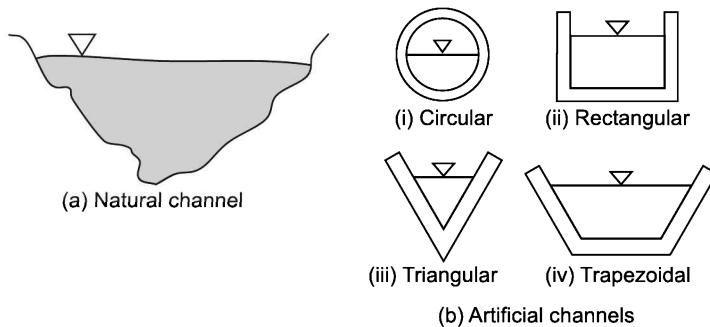

FIGURE 18.47 Natural and artificial open channels.
- (a) **Natural and artificial:** Natural channels have irregular sections of varying shapes, alignment and surface roughness. Examples are (i) rivers (ii) small rivulets and (iii) sheets of water across fields. Artificial open channels are built for some specific purposes such as (i) irrigation (ii) drain ditches and (iii) water gutters. Artificial channels are regular in shape and alignment and they have uniform surface roughness as shown in Figure 18.47.